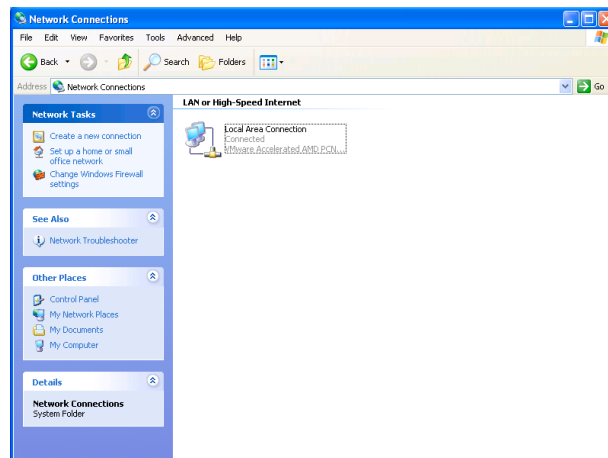

Figure 2.3c—Network Connection
Step 2: Double click on the icon labeled Network Connections. The following window will pop up (Figure 2.3c).